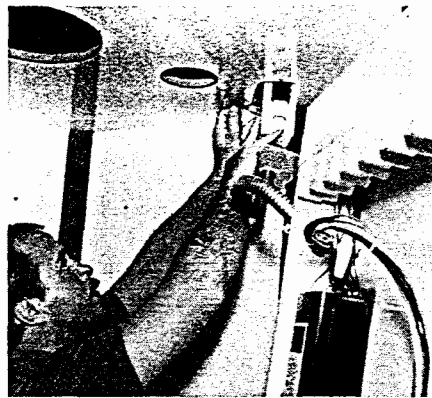

Fig. 33
1. Install lamp fixture #5 (control unit) (see Fig. 32). This is done very carefully so as not to damage floor surface. Lean fixture up against wall so you are able to feed junction box assembly up through junction box hole in ceiling (Fig. 33). Before feeding junction box assembly up through ceiling, slide dress plate down the cable towards the fixture. This will make it easier to install the control unit fixture. Carefully lift fixture #5 so the top hinge leaf aligns with the top hinge pin. (Fig. 34). Guide the fixture down while aligning the bottom hinge leaf with the bottom hinge pin. Once you have mounted fixture #5 on hinge pins, the junction box "dress plate" can then be secured to the ceiling of the booth, using the appropriate screws.